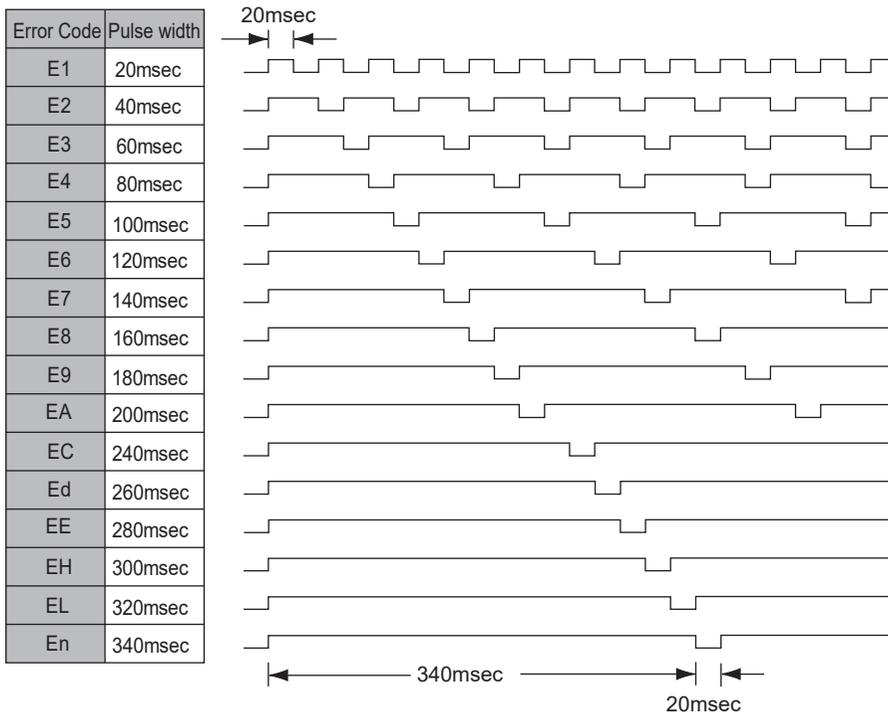

Fig. 58
When an error occurs, an error signal is output to the external Input / Output Connector A ③ (terminal No. 8: ERR). (Refer to Fig. 58.)